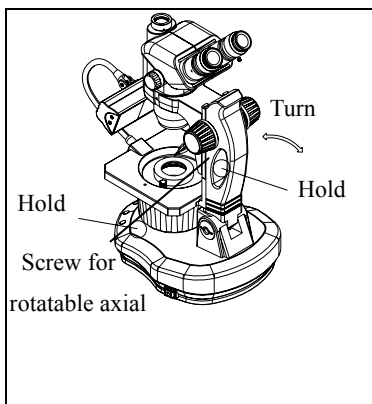

Figure 2
- (1) Hold the front of the base and arm to turn to suitable position for observation. (Fig. 2) Then tight the screw for rotatable axial.
- (2) The plastic disc under base can make the whole microscope for 360° rotatable.